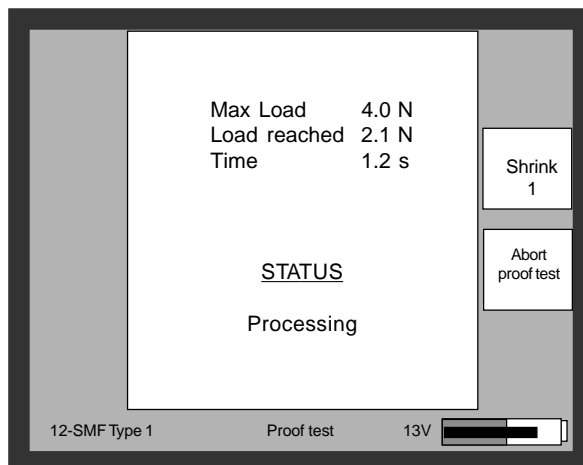

Fig. 7 - Monitor display after proof test program starts
6. The proof test program starts and the monitor appears as shown in fig. 7.